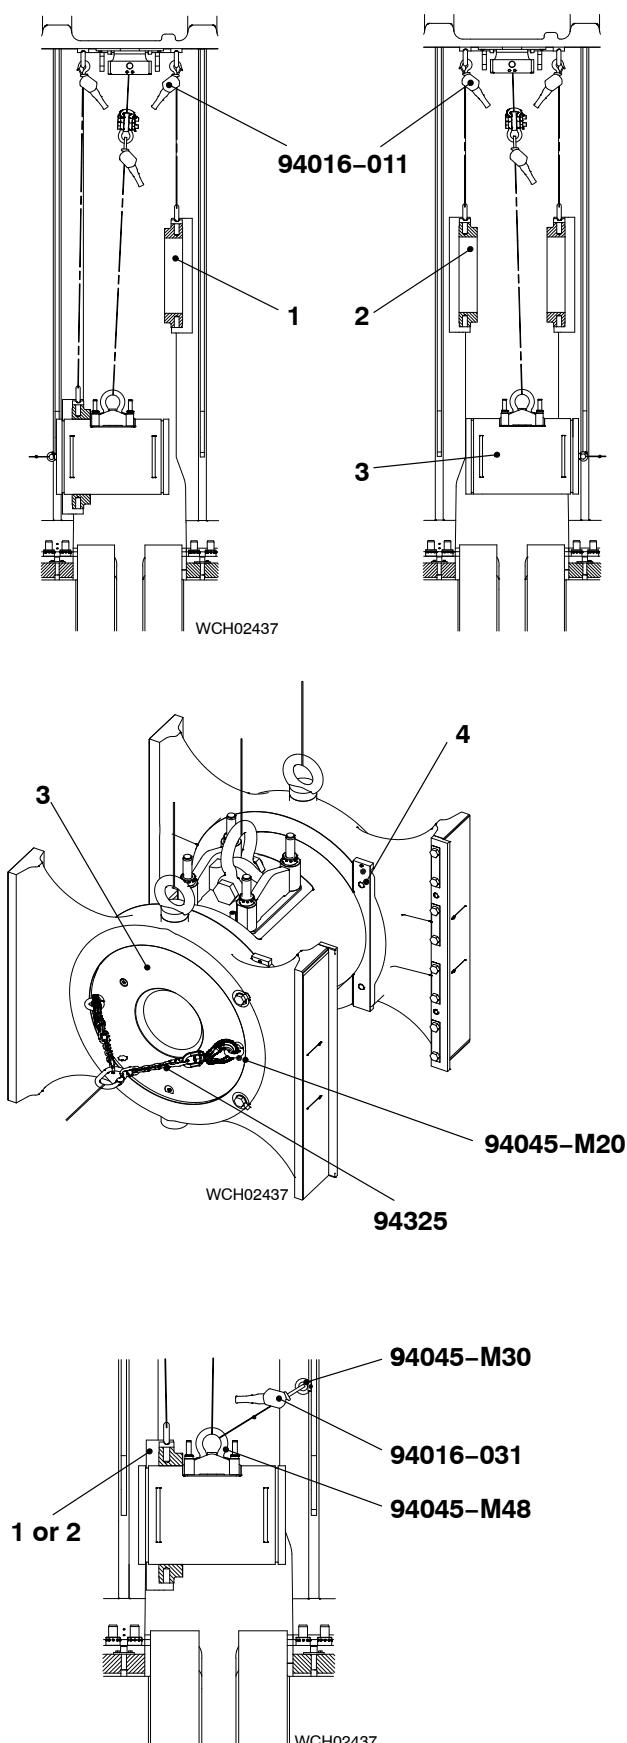

Fig. 11
- 9) Lower and align the guide shoe (2, Fig. 11) with the crosshead pin (3).
- 10) Attach the two eye bolts (94045-M20) and the chain (94325) to the crosshead pin (3).
- 13) Use the manual ratchet (94016-031) to pull the crosshead pin (3) into the guide shoe (2).
- 17) Use the manual ratchet (94016-031) to pull the crosshead pin (3) into the guide shoe (1).